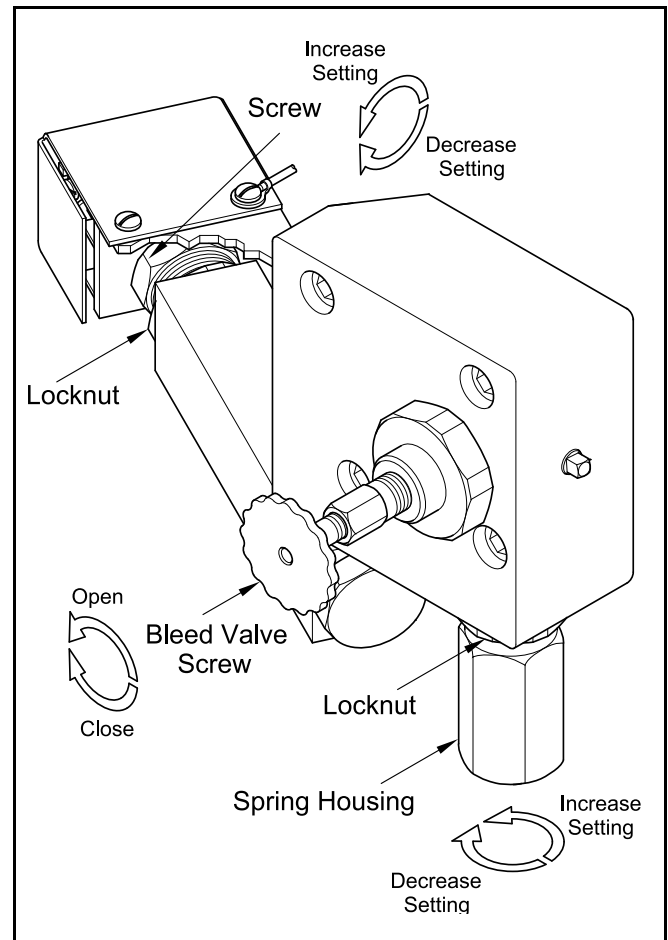

Figure 9 Priming Mechanism, Pressure Switch, and Emergency Bypass Mechanism Adjustments
56. Turn the **Bleed Valve Screw** counterclockwise. See **Figure 9**.
*IMPORTANT: The Pump may not shut off because product is recirculating the Emergency Bypass loop. Tighten the **Spring Housing** (Increase Setting) into the Valve Body. See **Figure 9**.*
6. Loosen the **Locknut** on the pressure switch **Screw**. See **Figure 9**.
15. Loosen the **Locknut** on the **Spring Housing**, if necessary. See **Figure 9**.